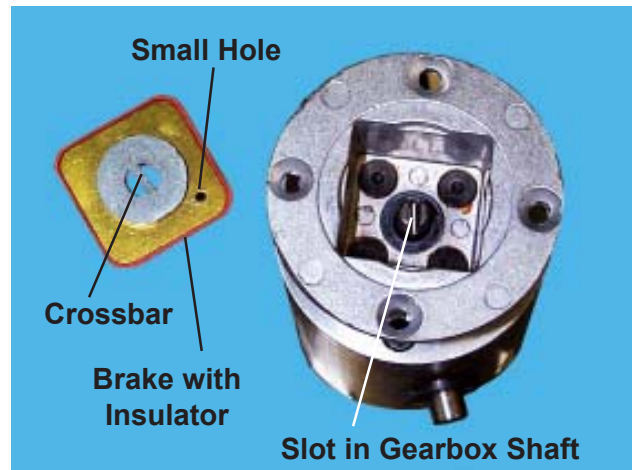

Figure 47. Brake and Gearbox
1. Place the brake into the brake insulator (Figure 47).